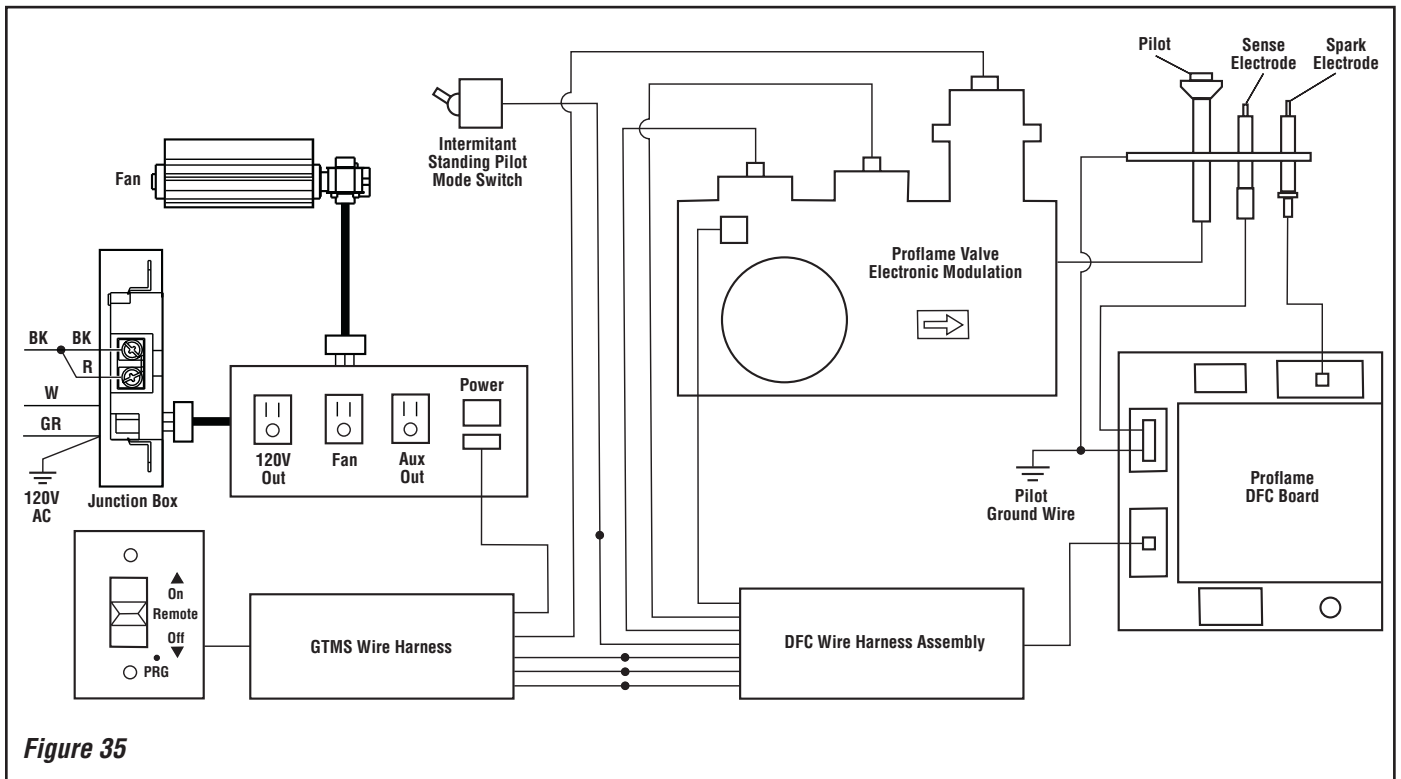

Figure 35
4. Connect the black power supply wire to the lower outlet's red and black pigtail leads and the white power supply wire to the common terminal of the outlet as shown in *Figure 35.*
IMPORTANT: Ground supply lead must be connected to the wire attached to the green ground screw located on the outlet box. See *Figure 35.* Failure to do so will result in a potential safety hazard. The appliance must be electrically grounded in accordance with local codes or, in the absence of local codes, the National Electrical Code, ANSI/NFPA 70-(latest edition). (In Canada, the current CSA C22-1 Canadian Electrical Code.)
Place the 3 position slider switch in the "Remote" position (*see Figure 35*). Using the end of a paper clip, or other similar object, insert the end of the paper clip into the hole marked "PRG" on the Receiver front cover. The Receiver will "beep" three (3) times to indicate that it is ready to synchronize with a Transmitter.